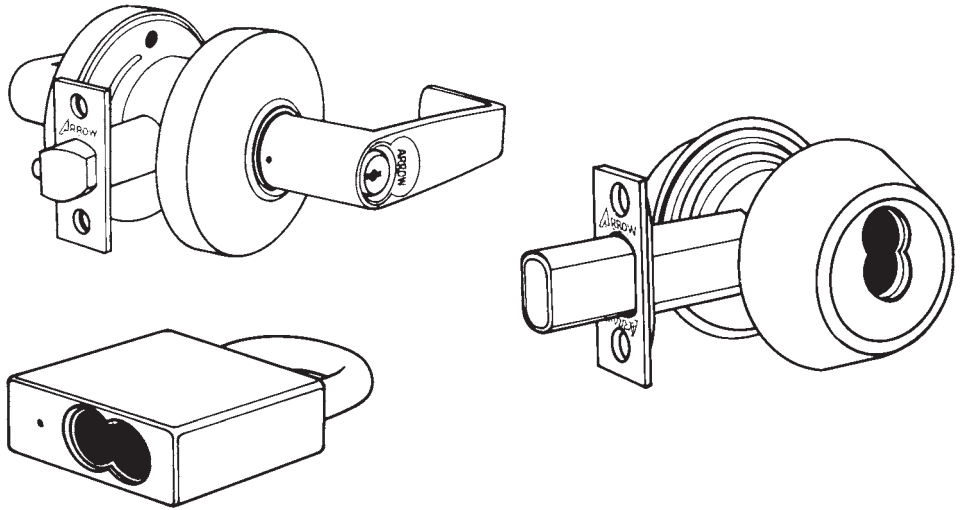
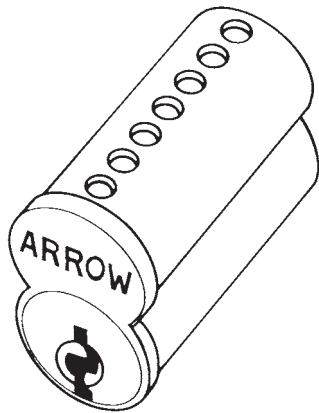

Figure 3.11 Types of IC locks. (Arrow Lock Company)
Figure 3.12 An IC core can be inserted into many different IC locks. (Arrow Lock Company)
Another type of pin tumbler system is found in *interchangeable core* (IC) locks. Although they come in the form of deadbolts, key-in-knobs, rim locks, mortise locks, padlocks, and desk and cabinet locks, all locks in an IC system can either use the same key or be masterkeyed. Some examples of IC locks are shown in Fig. 3.11. The common feature of IC locks is a figure 8-shaped core that houses the tumblers and springs. The cores can be easily removed and replaced (Fig. 3.12). Any IC lock can be rekeyed simply by inserting new cores in the locks.